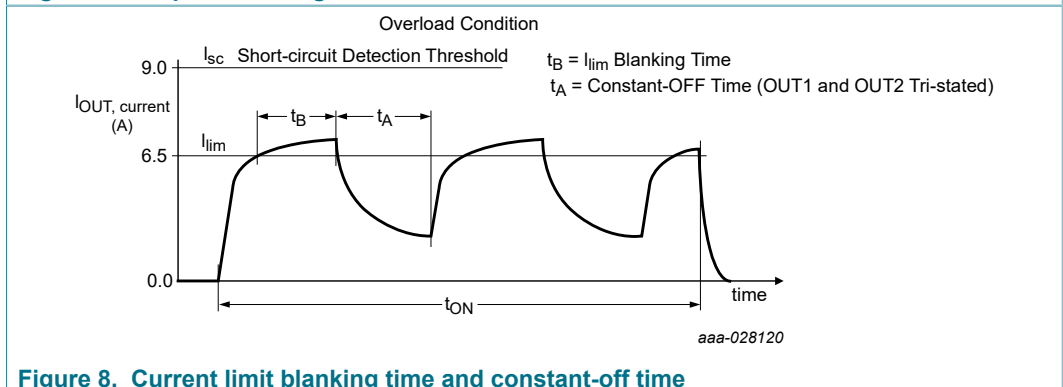
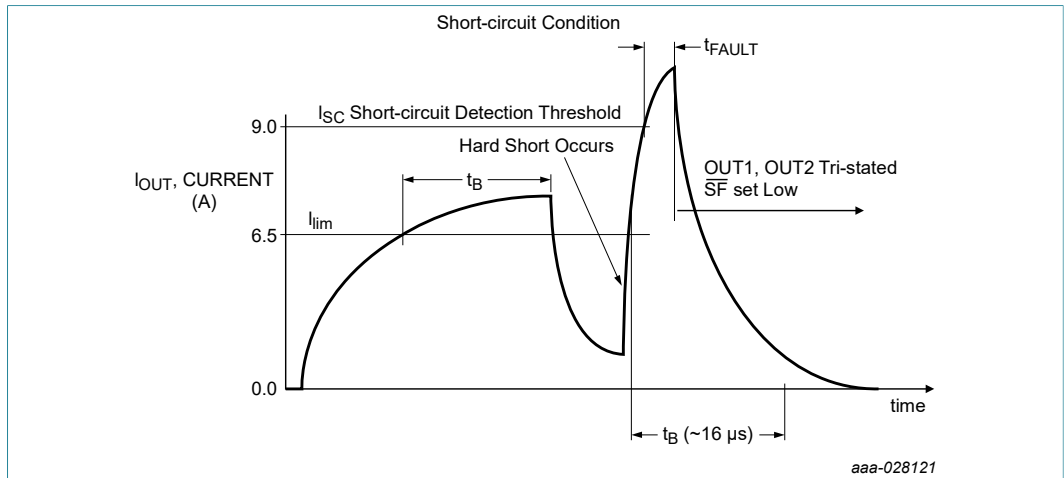

Figure 8. Current limit blanking time and constant-off time
Figure 9. Short-circuit detection turn-off time  $t_{FAULT}$
- [8] Load currents ramping up to the current regulation threshold become limited at the ILIM value (see Figure 8). The short-circuit currents possess a di/dt that ramps up to the ISCH or ISCL threshold during the ILIM blanking time, registering as a short-circuit event detection and causing the shutdown circuitry to force the output into an immediate tri-state latch-off (see Figure 9). Operation in current limit mode may cause junction temperatures to rise. Junction